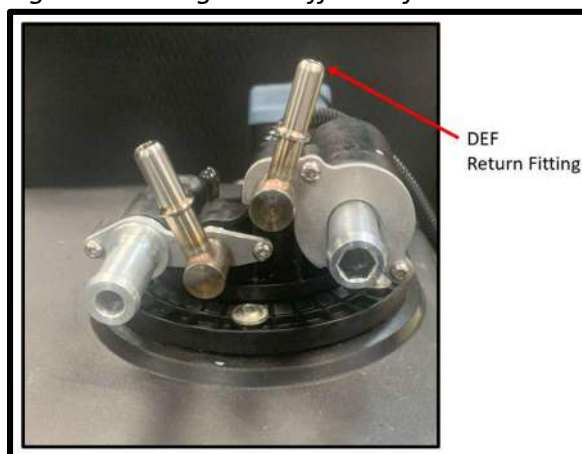

Figure 2.14 DEF Return Fitting Location
11) Install a DEF return hose to the DEF return fitting (5/16" per SAE J2044) per OEM service guidelines. Below **Figure 2.14** shows the return fitting location.